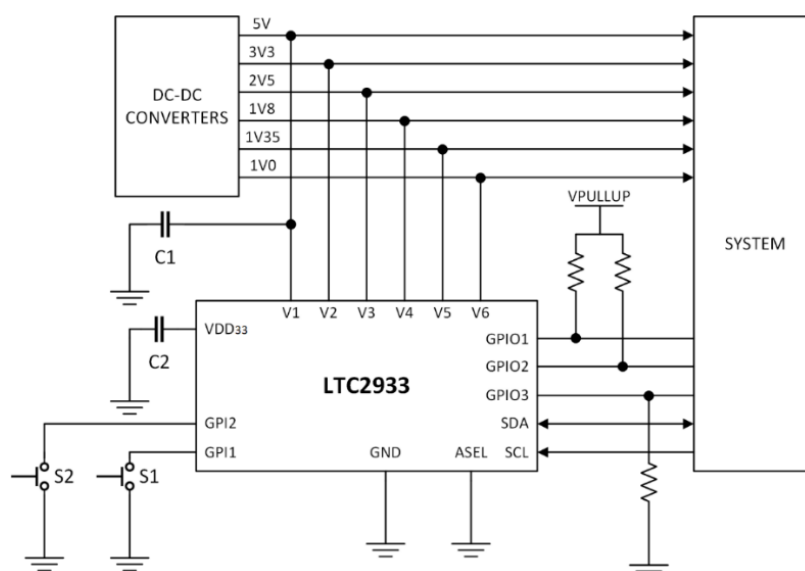

Figure 3-1 Application Circuit 1 Simplified Schematic Diagram
- The monitoring pins are configured as per applications circuits on Figures 3-1 and 3-2.